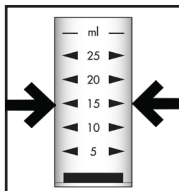

Figure 1
- For K2020, K2050, K2051, K2055:** Fill the sample cup to the 15 mL mark with the sample to be tested (fig. 1).
- For K2070 only:** Using the syringe, obtain 1.5 mL of the sample to be tested and dispense into the empty sample cup. Dilute to the 15 mL mark with distilled water (fig. 1).